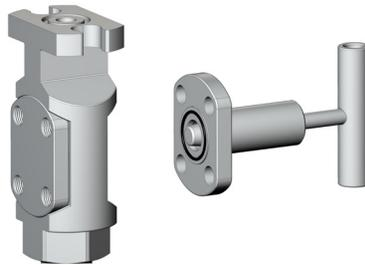

FIGURE 3
9. Install an o-ring on bonnet flange. (*See Figure 3*)